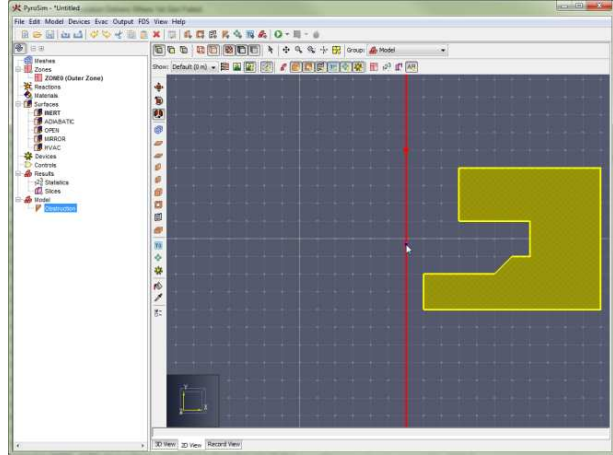

Figure 98. Define second point and mirror line
3. Use **Click-drag Mode** or **Multi-click Mode** to define two points that create a plane about which the selected objects are mirrored (Figure 98).